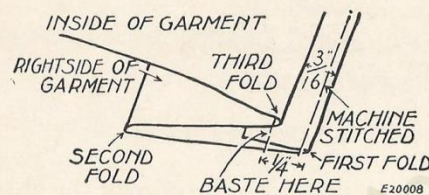

FIG. 240
(SEE FIG. 240)
- e—Now fold hem to right side of garment, exposing about one-half of the stitched edge, as shown in Fig. 240.